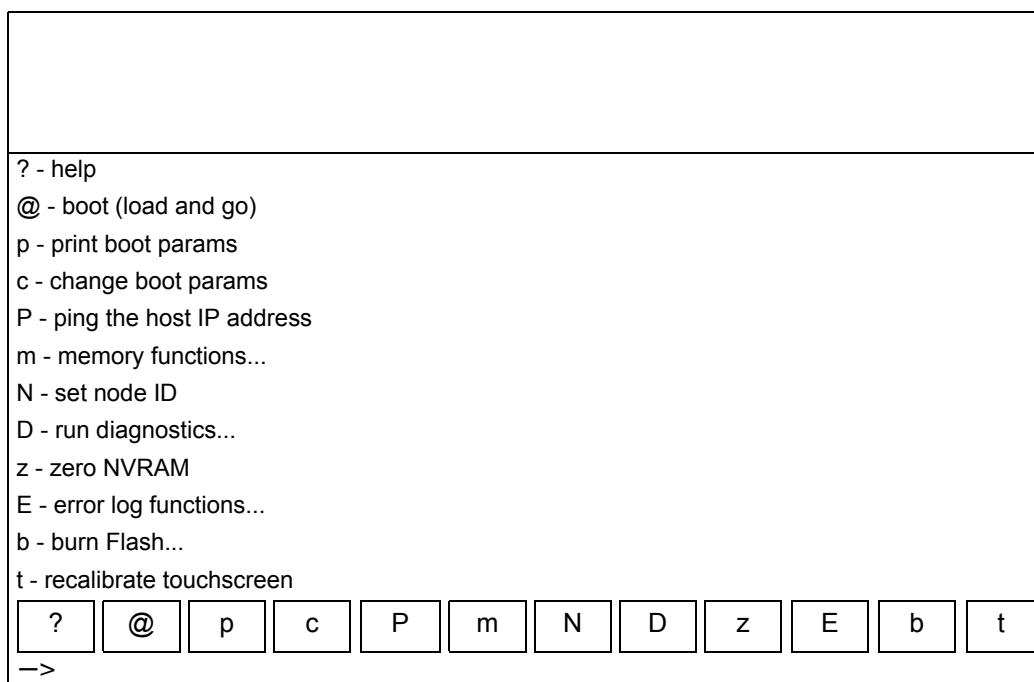

Figure 5-3: Boot menu
The **Boot** menu (*Figure 5-3* on page 5-4) is activated during system startup. It allows access to several basic configuration menus and functions of the monitor, including extended diagnostics. All text displayed on the screen is also output to the serial port.
- 3 The **Boot** menu appears as shown in *Figure 5-3*.